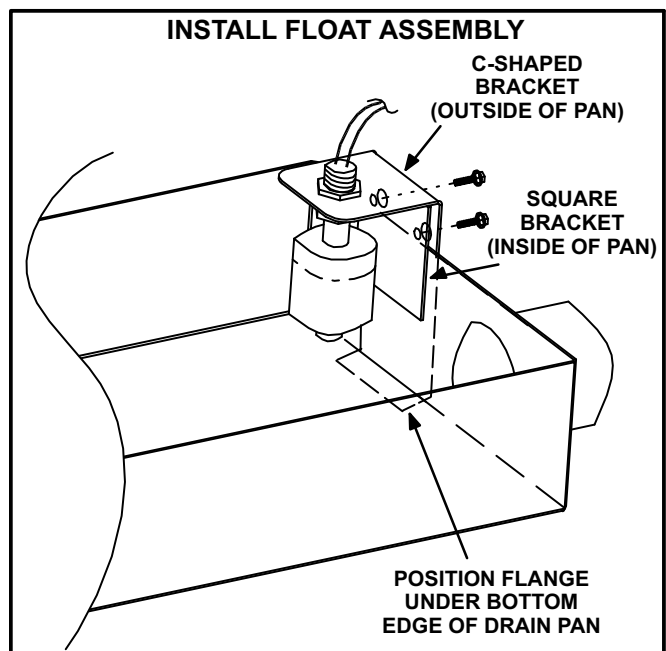

FIGURE 1
- 2- Secure float switch assembly to C-shaped bracket using locknut. See figure 1.
- 4- Install the drain pan float switch assembly as shown in figure 1. Position the square bracket on the inside of the pan and the C-shaped bracket on the outside; use screws to secure assembly to side of drain pan.